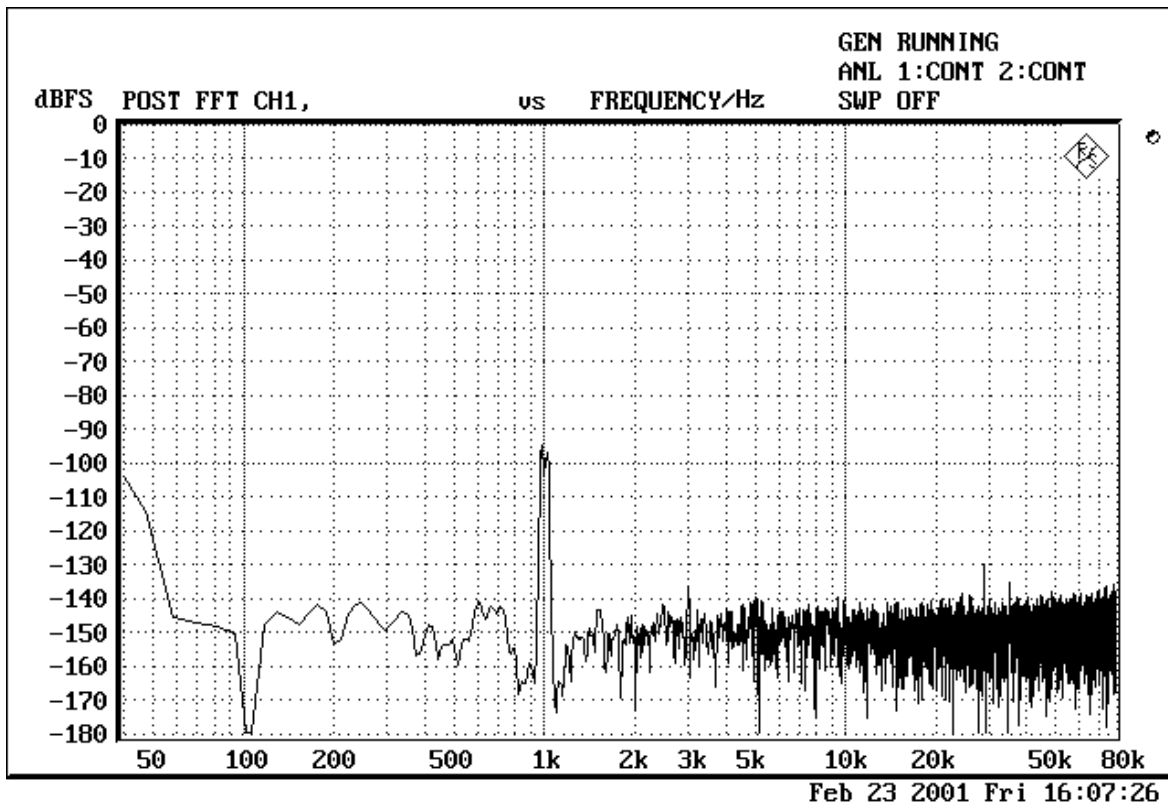

Figure 2-1-2. FFT (1kHz, -60dB input)
- Figure 2-1-2. FFT (1kHz, -60dB input)